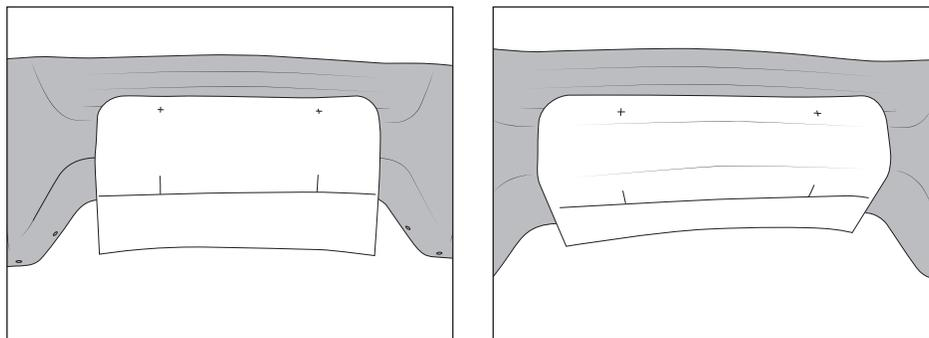

Figure 2
- B. Align the template to the license plate dimples on the front fascia (fig. 2).